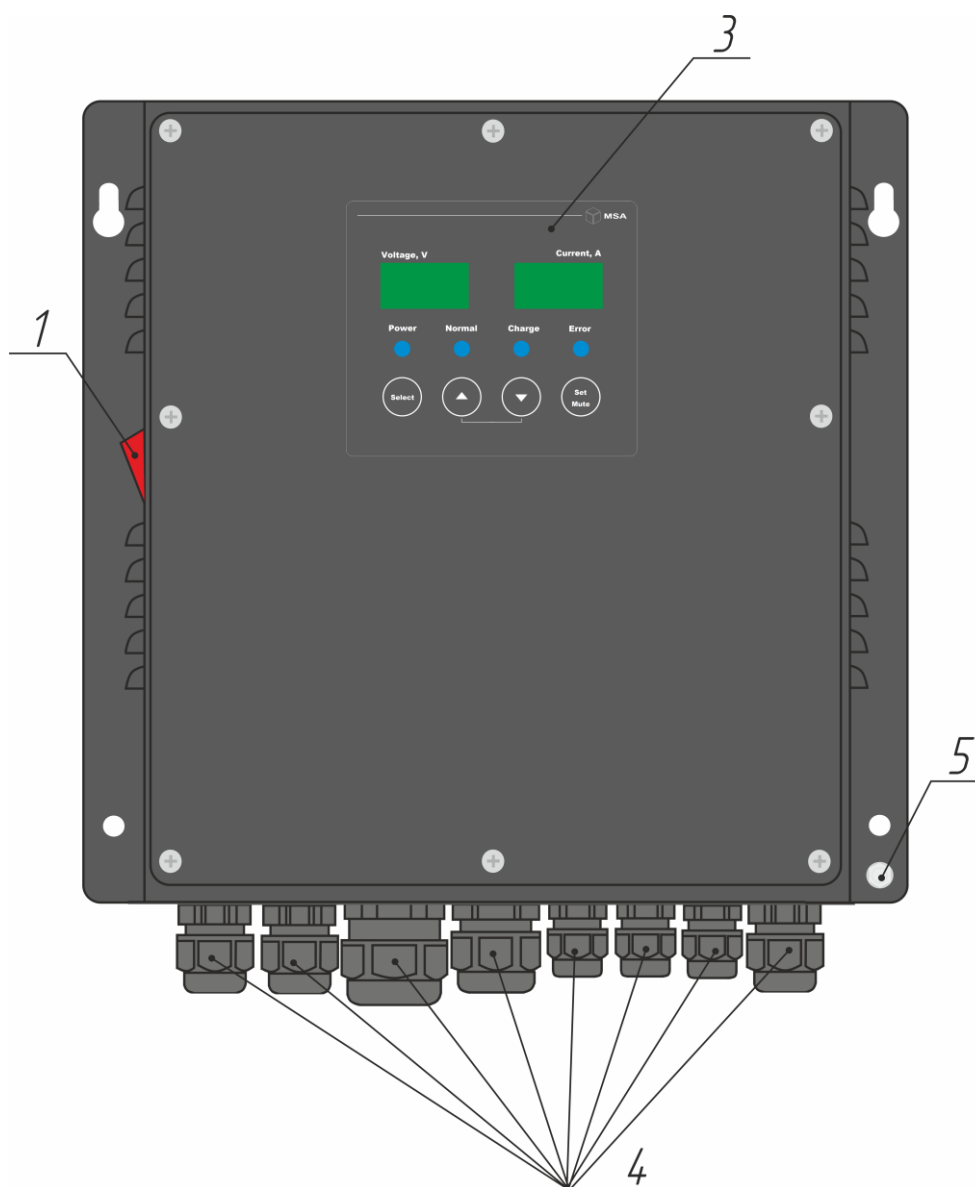

Figure 1 – Functional elements, controls and indication of the PCH with an integrated control
c) charge current and voltage of SB can be set up using a keyboard located on the Product's casing, see Figure 1;
The Product's appearance is represented in Figure 1.
| Note – See the numbers in Figures 1 – 2. | | | |